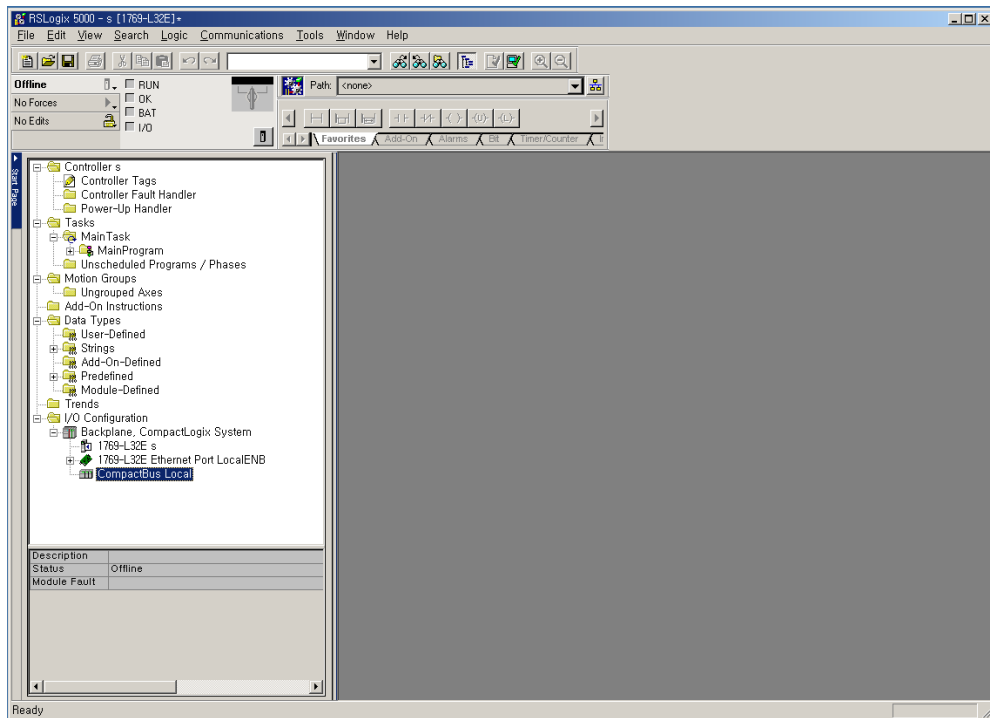
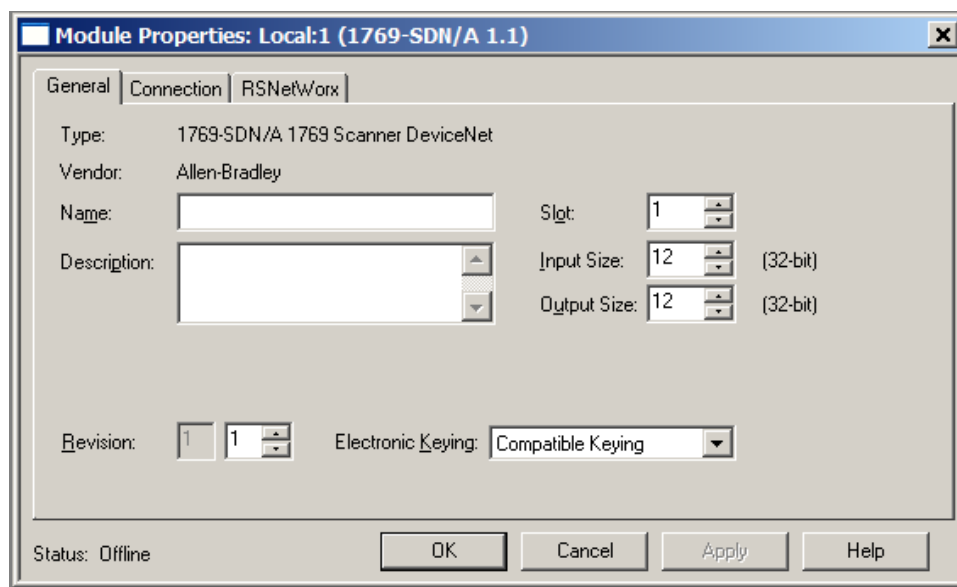
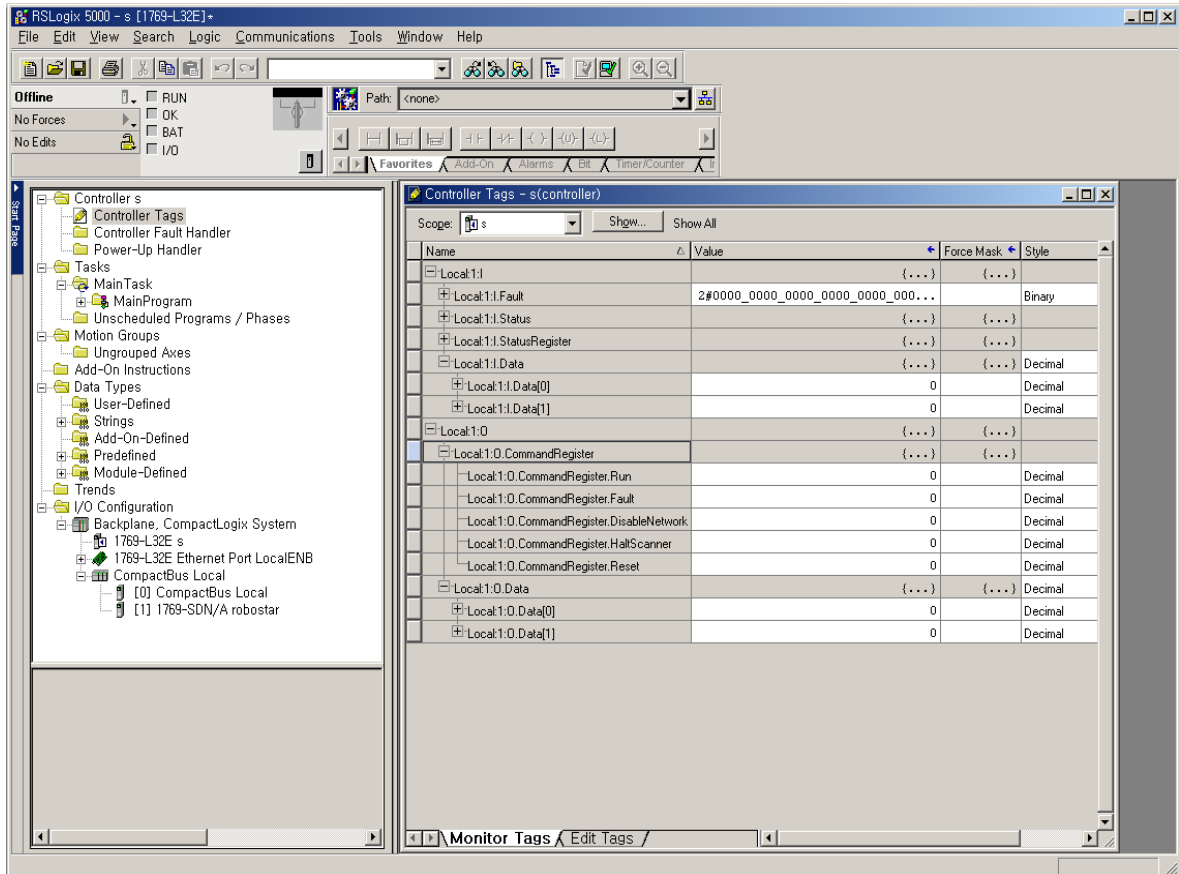

Fig. 5.7 In-progress RsLogix 5000 Screen
Fig. 5.8 1769-SDN Setup Screen
Fig. 5.9 DeviceNet I/O tag screen
- Run Rslogix 5000, select File -> New to create a new project. Once a new project has been created, a screen comes up as shown in Fig. 5.7, in which when you right-mouse click a New module from CompactBus Local on the bottom left of the screen, a Select module window comes up. Click the Communications tab and 1769-SDN Scanner pops up. When clicking and selecting it, you can see 1769-SDN has been created below CompactBus Local tab and Fig. 5.8 screen comes up.
11) In Fig. 5.8, write a name for module management in the 'name' section, putting in the I/O size to use in Devicenet Network when asked about Input size and Output size. In the example program, Input size is set to 12(46byte) and Output size to 10(40byte) as one N1 module is connected. For reference purpose, Input size and Output size should be set identically to I/O size set to Scanlist in RSNetworx. Click the Confirm button and RSNetworx tab to configure the path of the RSNetworx file set and saved in Ch.5 "6)".
- 12) Click the Controller Tags on top left in Fig. 5.7 and a screen in Fig. 5-9 comes up, enabling you to check that the I/O tag values set in Fig. 5.6 found matching and were displayed on the screen accordingly.